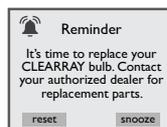

Figure 15.0c
- CLEARRAY Replacement Reminder: This message will appear when the CLEARRAY bulb reminder time has expired (Figure 15.0c). The CLEARRAY bulb must be replaced.